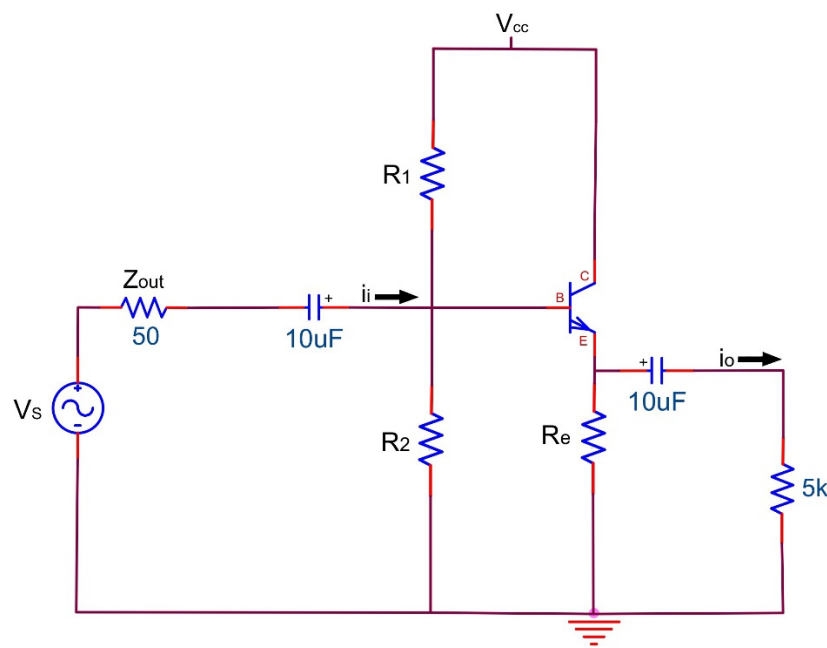

Figure 8.1
1. Refer to Figure 8.1. Using the 2N2222A transistor, design a common collector amplifier with the following specifications: